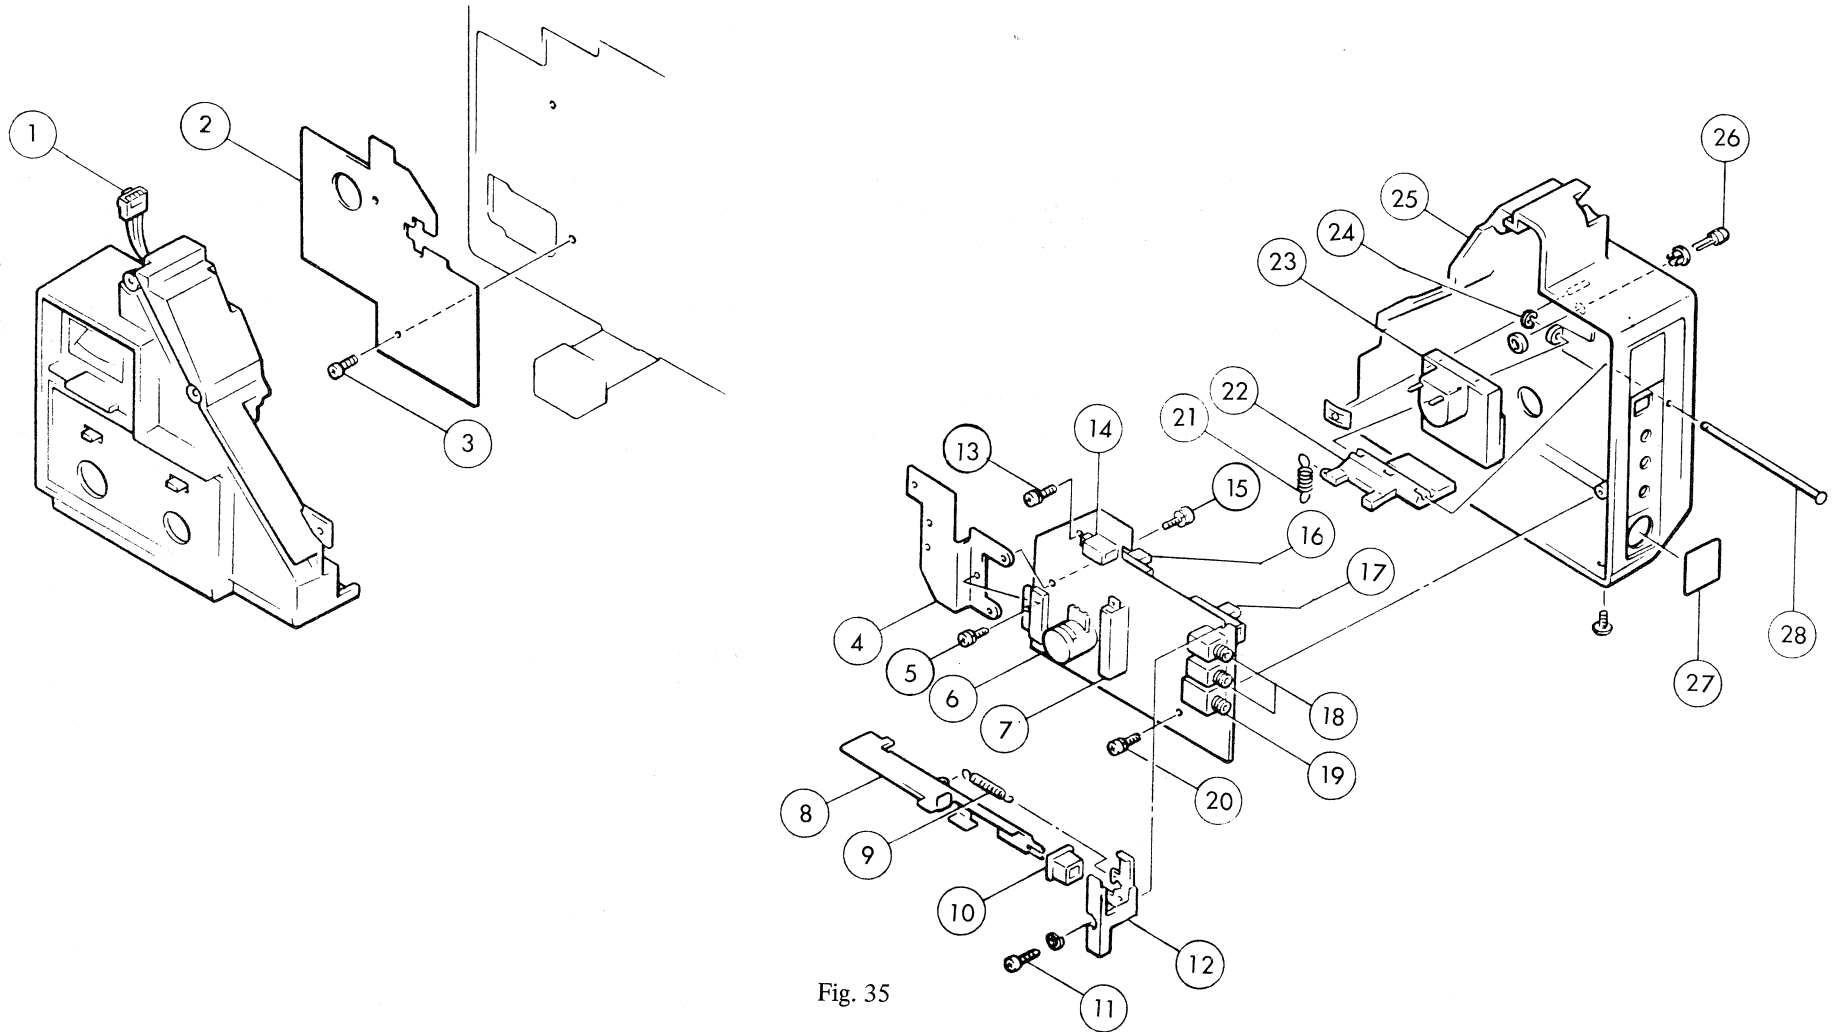

Fig. 35
2. Disengage ⑨ to remove ⑧.
3. Disengage ⑲ from ⑳.
4. Unscrew 1 piece each of ⑪, ⑬ and ⑳ to remove amplifier PC board.
6. See Fig. 35 for further disassembly.